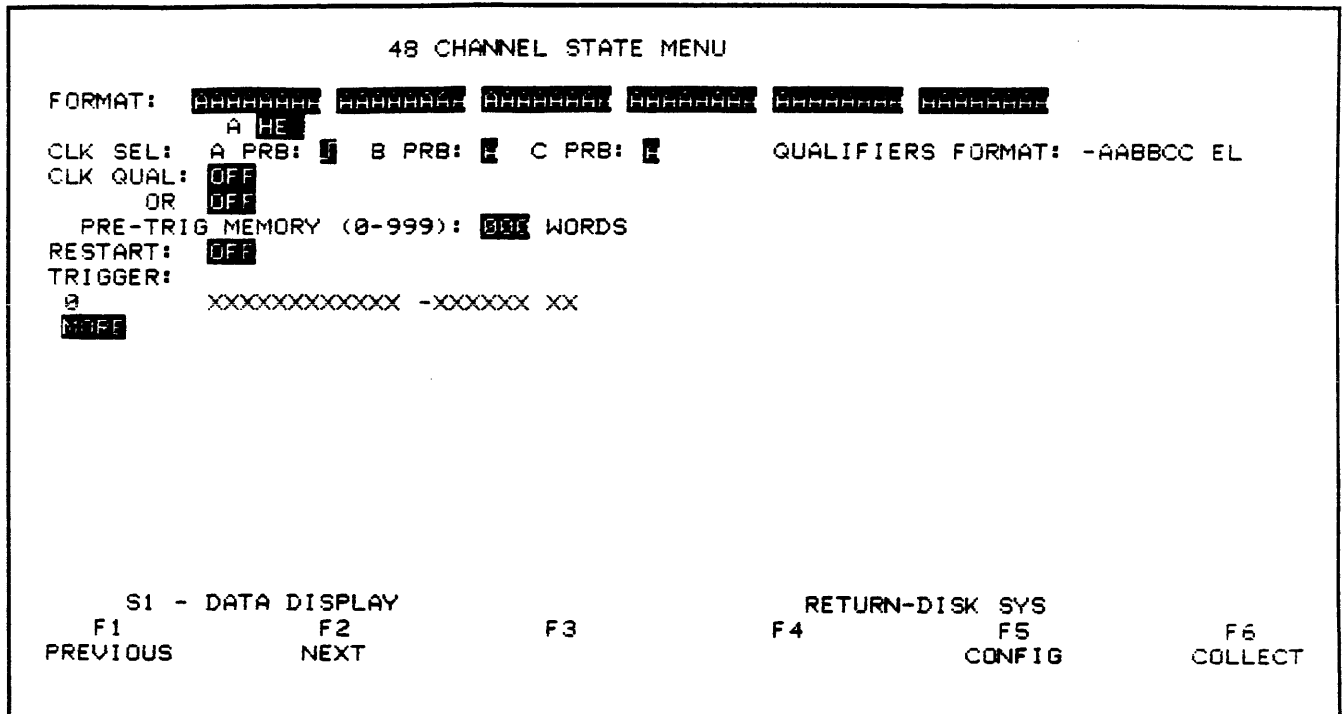
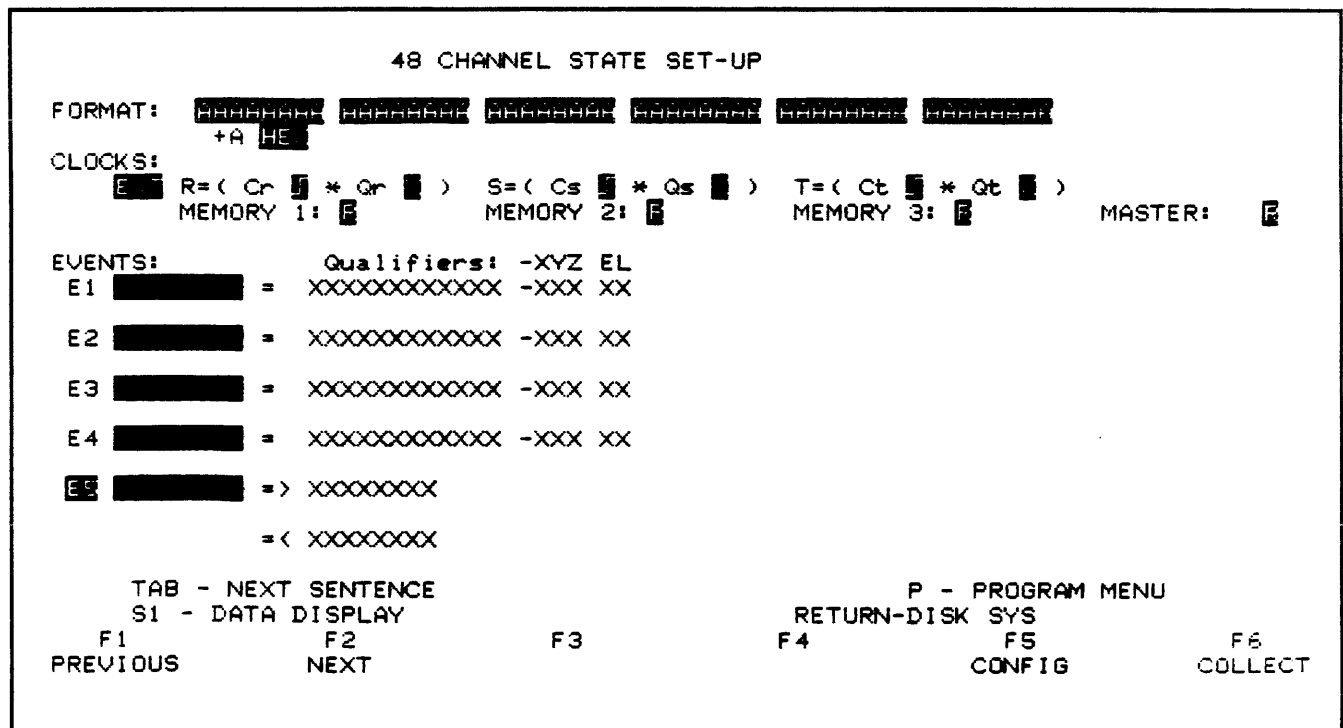

Figure 2-9A: Model 800 A, B, C State Menu
Figure 2-9B: Model 800 D State Menu
- a. To select the 48-CHANNEL STATE menu, press the STATE (F1) key to call the state menu (Figure 2-9A for Models 800 A, B, and C; Figure 2-9B for Model 800 D).